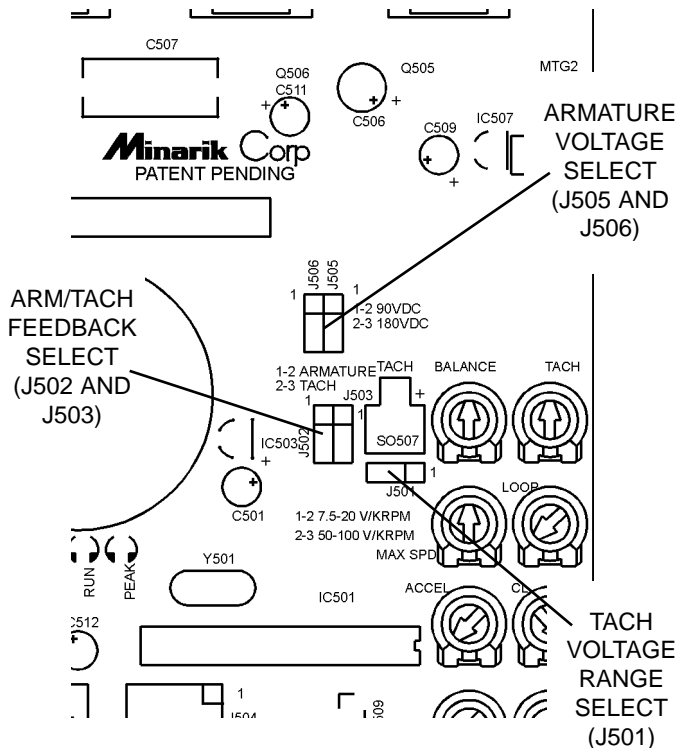
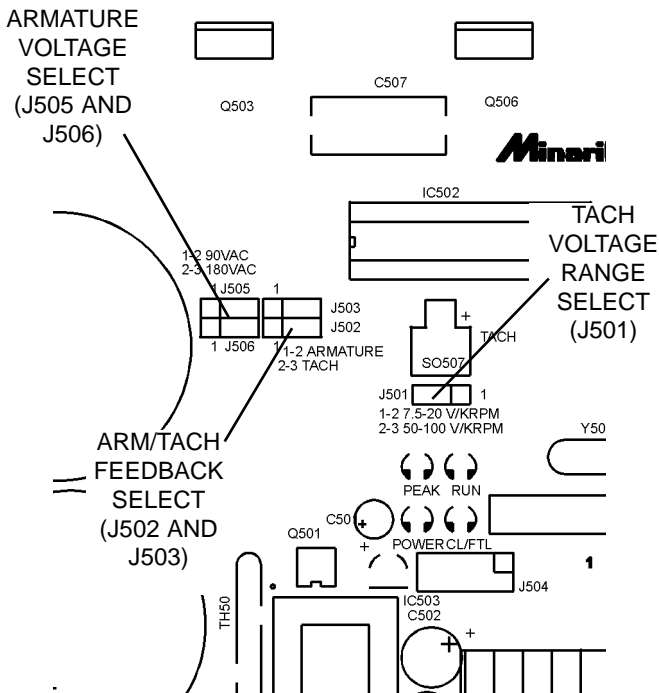

Figure 10. NRGD05 Jumper Terminal Location
Figure 11. NRGD10 Jumper Terminal Location
For NRGD05-series jumper locations, refer to Figure 10 (page 25). For NRGD10-series jumper locations, refer to Figure 11 (page 26).
2. Set ARM/TACH FEEDBACK jumpers J502 and J503 for armature feedback. Refer to Figures 10 (pg. 24) and 11 (pg. 25) for jumper locations.